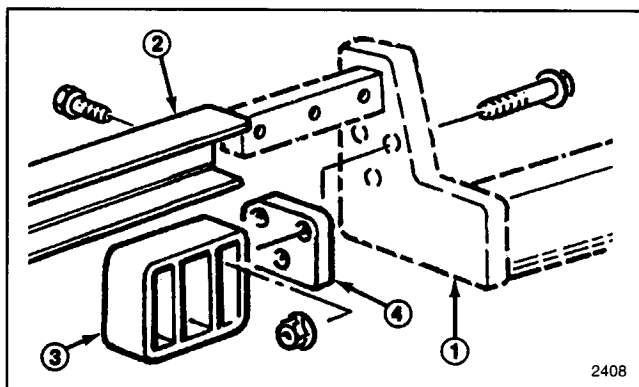

Figure 2
1. Slide carrier frame onto lift arms. Align spacer and mounting holes (Fig. 2).
2. Secure each side with (3) 1/2 x 1-1/2" (38 mm) bolts (Fig. 2).
3. Torque mounting screws to 70–80 ft. lbs. (95–109 Nm) (Fig. 2).